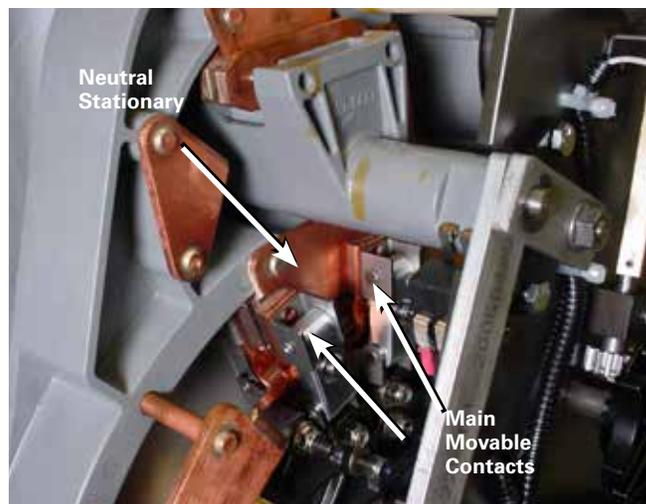

Figure 7. Neutral position for main movable contacts.
- A. Main movable contacts are located on the neutral stationary contact, which is located at the 11 o'clock position and under the reversing switch movable contact assembly. See Figure 7.